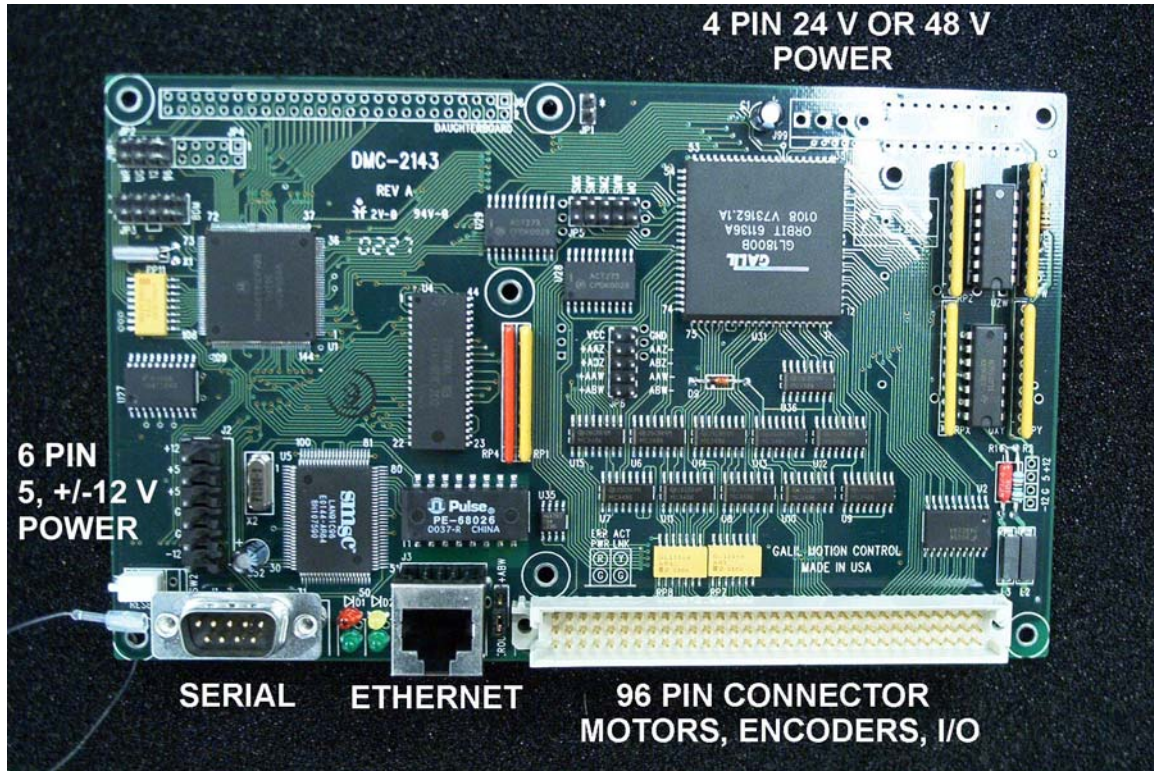

Figure 1. Galil DMC-2143-V-UP-VP (top view)
Figure 1 shows a DMC-21x3 controller with part number DMC-2143-V-UP-VP (or simply DMC-2143 since the connector orientations specified by -V-UP-VP are the default). Note that the 1-4 axes versions use this PCB footprint whereas the 5-8 axes versions have a larger footprint.
Each part number field is explained in the DMC-21x3/x3 Specifications under ORDERING INFORMATION, but the three fields that specify connector orientation can be clarified. The serial/Ethernet, 96-pin, and power connectors on the 21x3 may each be ordered in different orientations (unless the DIN rail option is ordered with -DIN, in which case the board will come with all connectors oriented exactly as in figure 1).
The serial port and Ethernet connectors may be ordered both in the vertical orientation (as shown in figure 1) with -V or in the horizontal orientation with -H (which would put these two connectors facing towards the bottom of the page).
-UP: The 96-pin connector is mounted straight up on the top of the board exactly as shown in figure 1.
There are two possible locations for connection to input DC power. If you will be supplying all three board-level supply voltages (5V, +12V, and –12V) directly to the DMC-21x3, you will connect to the 6-pin header located in the lower left (figure 1) with a Molex 26-03-4061 mating connector.
If you instead wish to bring a single supply voltage to the board, you must specify either –DC24 or –DC48 in the part number and, instead of the 6-pin header, a four-pin header will be stuffed into the four holes on the upper right of the board (figure 1). Use a Molex 26-03-4041 to mate with this 4-pin header.
The 6-pin header may be ordered either in the vertical orientation (as in figure 1) with –VP or in a right-angle orientation with –HP. The 4-pin header always comes in the right-angle orientation (otherwise it would interfere with the daughter board).